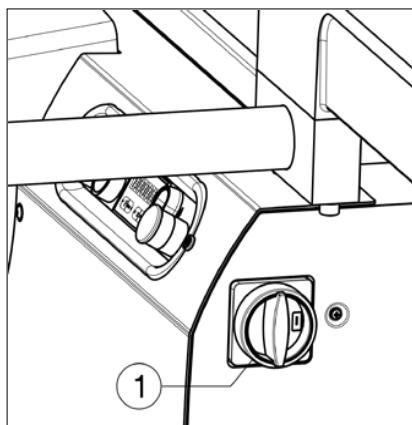

Fig.4
- connect the 3 phases to the terminals marked L1, L2, L3 (fig 4);